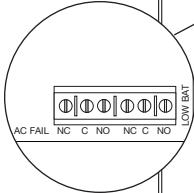

Fig. 1c
3. Set SW1 on the power supply board to the desired DC output voltage (*Fig. 1c, pg. 5*) (*Power Supply Voltage Output Specification Chart*).